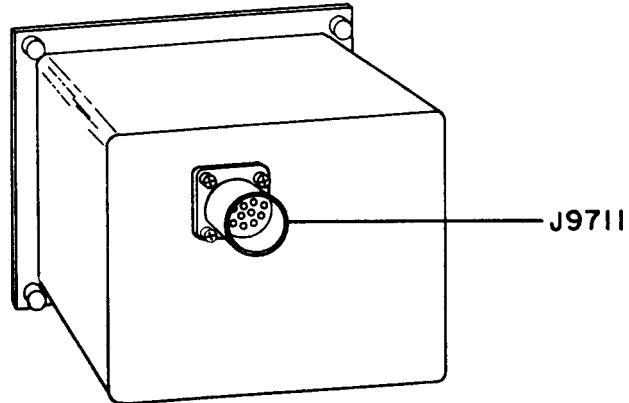

Figure 3-2. Control-Display Connector
2. Refer to figure 3-2. Remove connector from J9711 on the rear of the control-display.
1. Refer to figure 3-2. Place control-display in mounting location and secure connector to J9711 on the rear of unit.